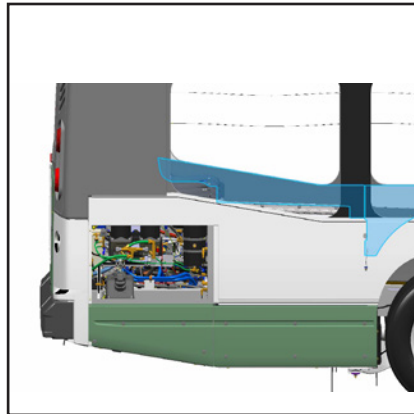

Figure 1 - DEF Reservoir Access Door
- 1.1. Open the DEF reservoir access door and locate the air dryer. See Figure 1.